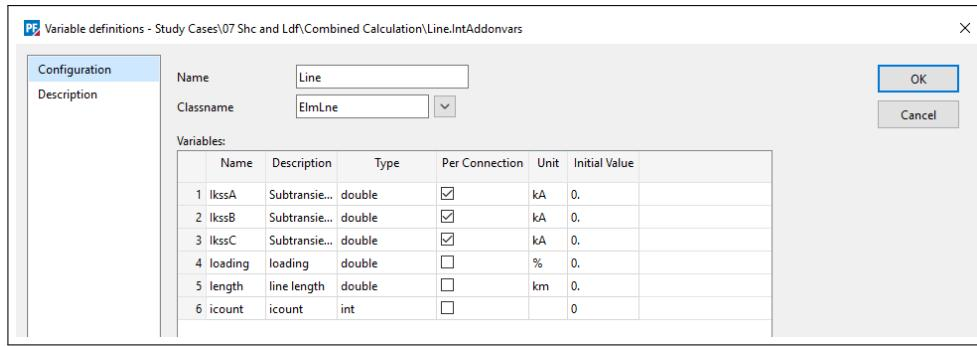

Figure 23.5.2: Example of user-defined variable definitions for line elements
- The *IntAddonvars* is configured to set up the user-defined variables. In the example in figure 23.5.2 below, short-circuit results variables are defined, one for each phase, and also line loading, line length and an internal counter from the script.